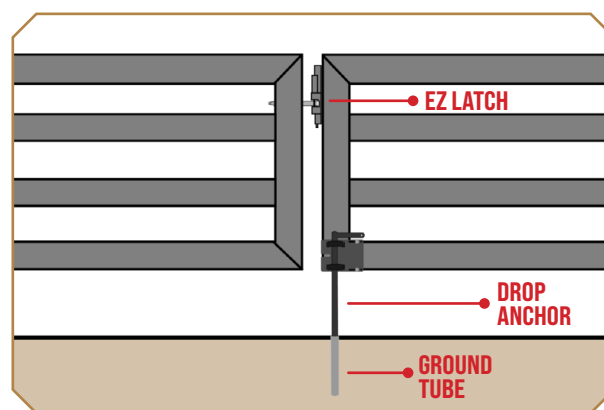

Figure 3
6. The drop handles are made extra long for various terrain issues. Cut the bottom off to suit your ground tube position (Figure 3).